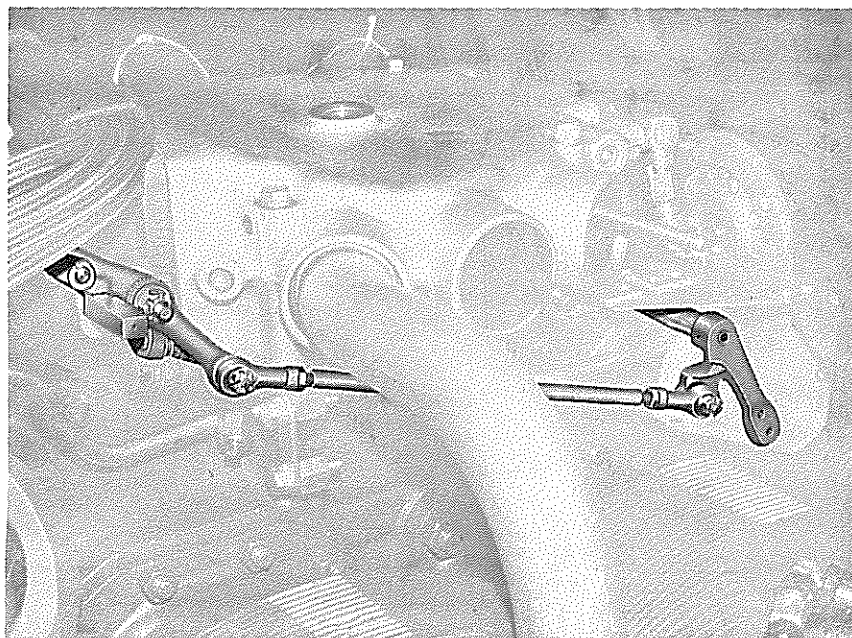

Figure 5-6. Obtaining Clearance of Throttle Lever in Full Open Position
f. Replace gage (ST-318) on injector stop pin with the side marked ".025" up. This is the desired clearance between the pad of the throttle arm and the injector stop pin with the throttle lever in full open position. Move cross shaft control lever forward to put injector throttle lever in full open position and maintain a constant pressure between the throttle arm pad and the gage while completing the following step. See figure 5-6.